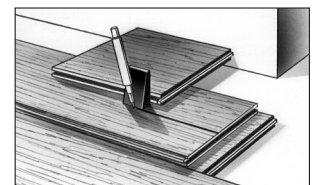

Figure 10
- Use a pull bar when necessary to ensure joints are tight (Fig. 10).